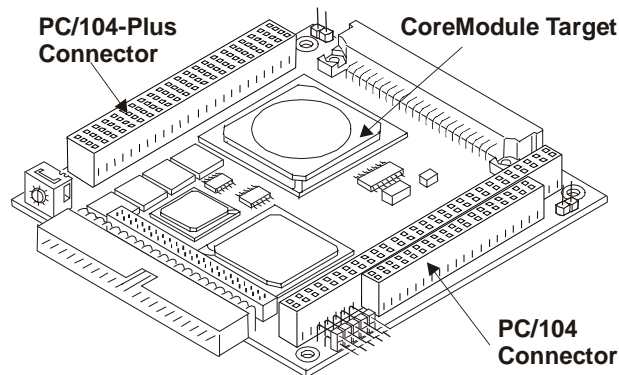

Figure 2-1. CoreModule Target System Example
<ul style="list-style-type: none"> <li>• If the target system has already been setup on the workbench for installation of the MiniModule USB2 board, skip this section and go to Step 9.</li> <li>• Refer also to the target system QuickStart Guide for the install instructions referenced in the following steps. See Figures 2-1 and 2-2 for examples of CoreModule and Little Board Target Systems.</li> </ul>
12) Position the MiniModule USB2 over the target system	<ul style="list-style-type: none"> <li>The MiniModule USB2 must be positioned over the PC/104 and PC/104-Plus connectors on the target system. See Figures 2-1 to 2-4.</li> </ul> <p>Typically the MiniModule USB2 board is installed on the top side of the target system, but in some cases, it may be installed underneath the target system.</p>